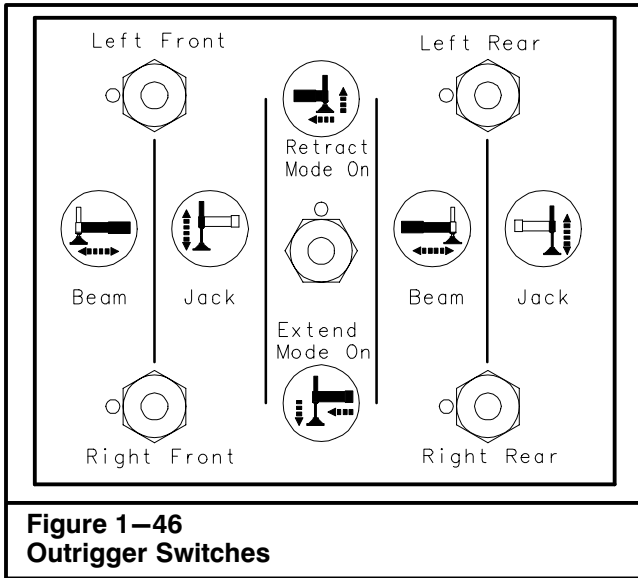

Figure 1–46
3. Determine the outrigger position desired. Set the extended position lever as required (Refer to Figure 1–47).
9. If the intermediate extended beam position is to be used, visually check that all beams are properly positioned in the intermediate extended position. All beams must be extended until the stop plate contacts the extend position lever. Refer to Figure 1–47.